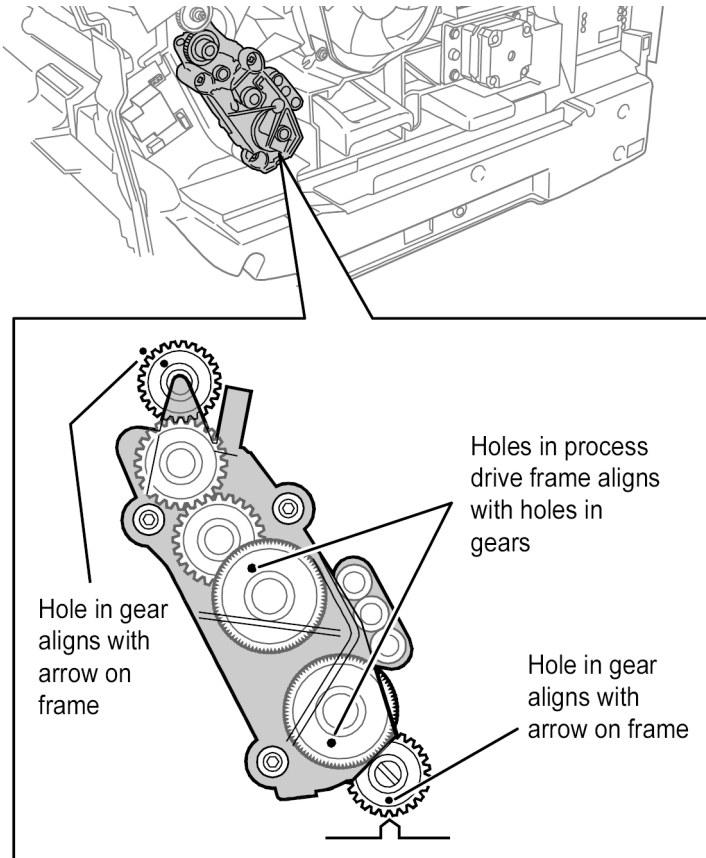

Figure 1 Process Drive Gear Alignment
- The holes in the Process Drive and gears must align as indicated in Figure 1.